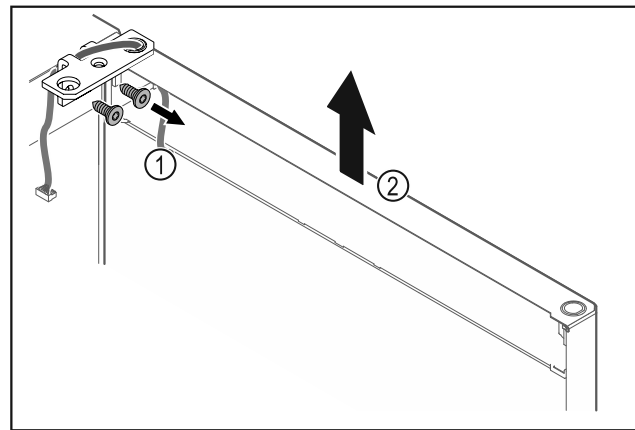

Fig. 22
- Unscrew the hinge Fig. 22 (1).
- Lift the door with the hinge straight up by Fig. 22 (2) roughly 200 mm and take it off.